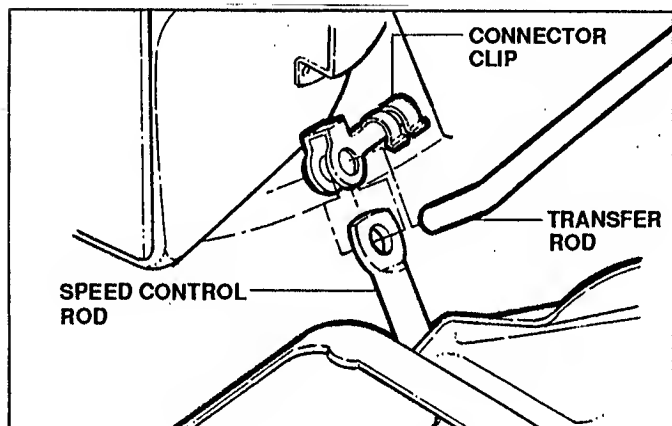

FIGURE 3.15
(a) Remove the connector clip from the end of the speed control rod and transfer rod. See Figure 3.15.
- (a) Prior to folding handles on self-propelled models, disconnect the transfer rod clip. See Figure 3.15.